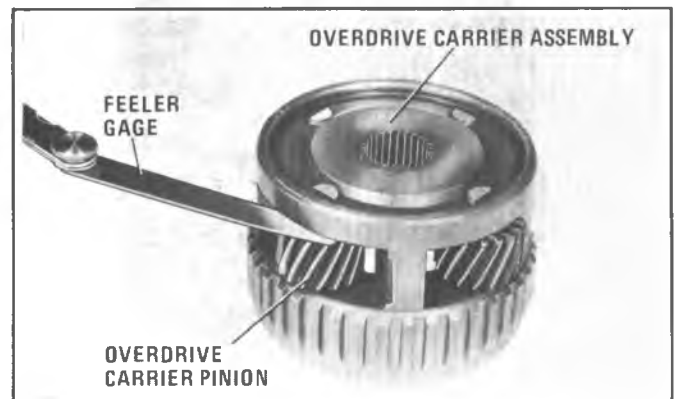

Figure 7A6-186 Checking Overdrive Carrier Pinion End Play
5. Check pinion end play (Figure 7A6-186). Pinion end play should be 0.24 mm - 0.60 mm (0.009" - .024").
6. Remove overdrive carrier snap ring (Figure 7A6-187).
7. Using pliers, remove overdrive pinion pins (Figure 7A6-188).